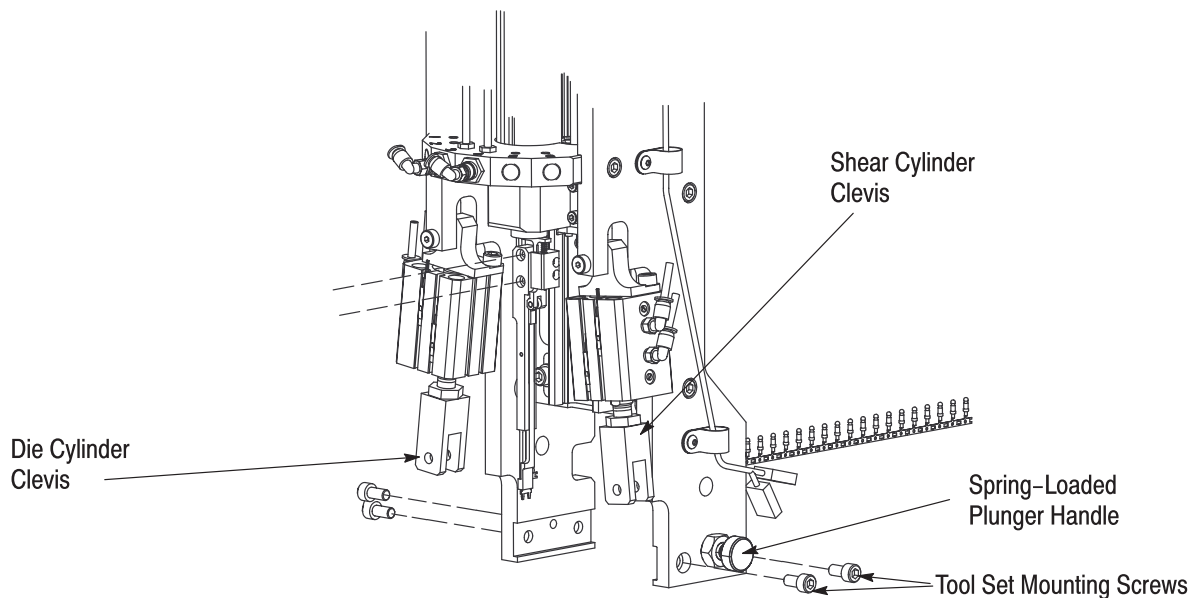

Figure 11
7. Remove the four mounting screws (located on each side of the power unit) securing the tool set to the power unit. See Figure 11. Retain the mounting screws.
11. Re-install the four tool set mounting screws (removed in Figure 11) back into the *tool set*. This will help to avoid the loss of the mounting screws.